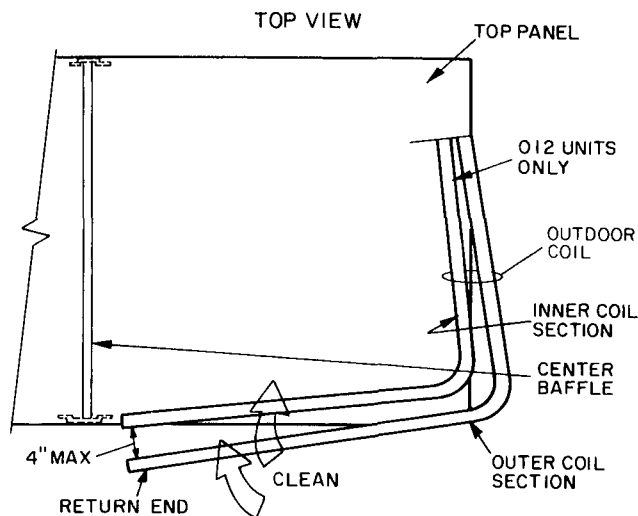

Fig. 16 – Separating Coil Sections
4. Remove device holding coil sections together at return end of condenser coil. Carefully separate the outer coil section 3 to 4 in. from the inner coil section. See Fig. 16.